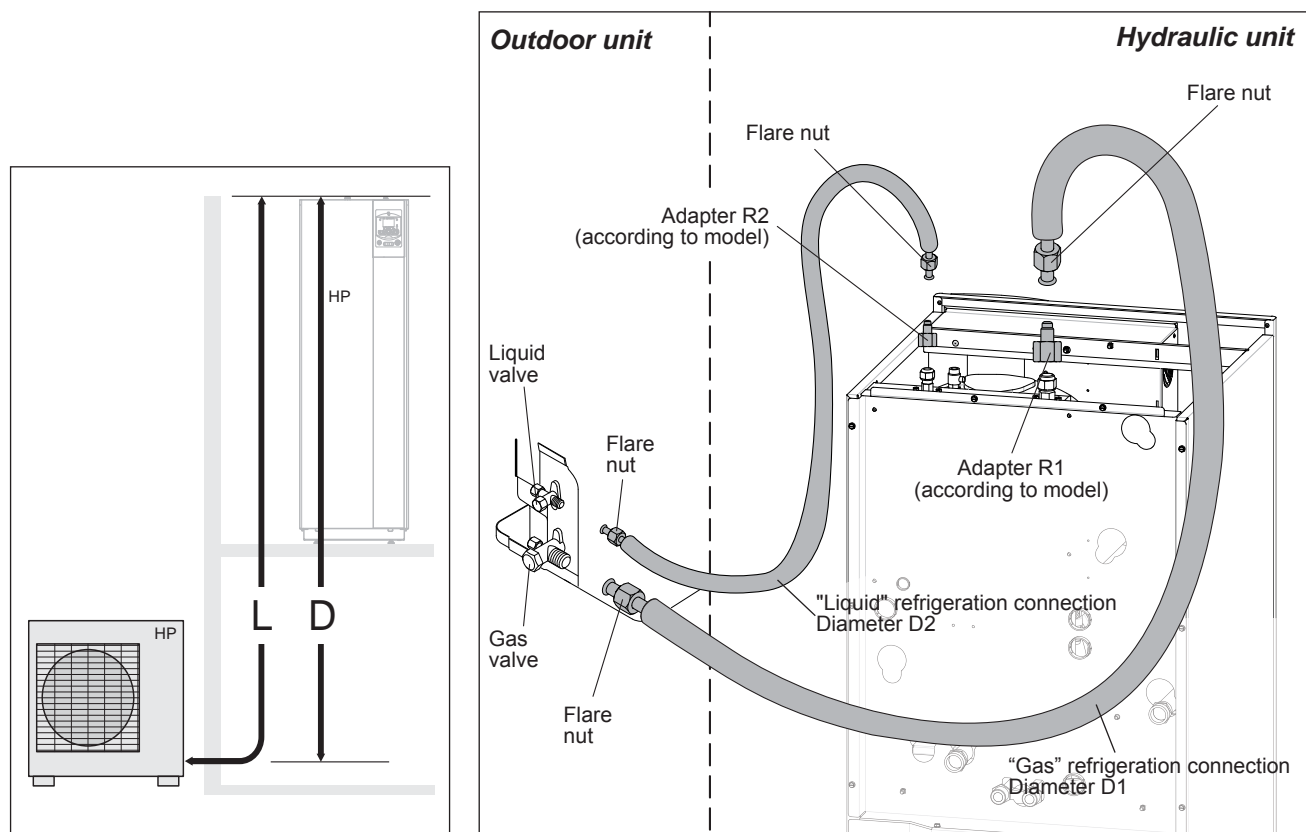

figure 17 - Connecting the flared connections (Pipe diameters and permissible lengths)
Comply with the pipe diameters and the permitted pipe lengths (figure 17).
- Depending on the case, connect an adapter (reducer) 1/4"- 3/8" or 1/2"- 5/8" (see figure 17).